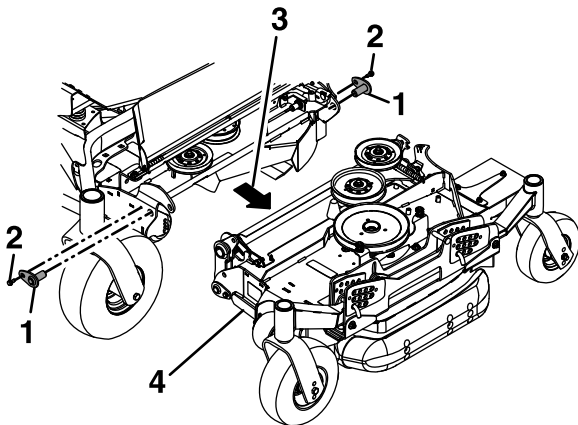

Figure 85
12. Remove and retain the bolts that secure the upper pivot pins to the deck and then remove the pivot pins (Figure 85).
13. Pull the wing deck outward to separate it from the center deck section (Figure 85).
Align and install the upper pivot deck pins in the front and rear of the deck and secure it using the previously removed bolts (Figure 85).